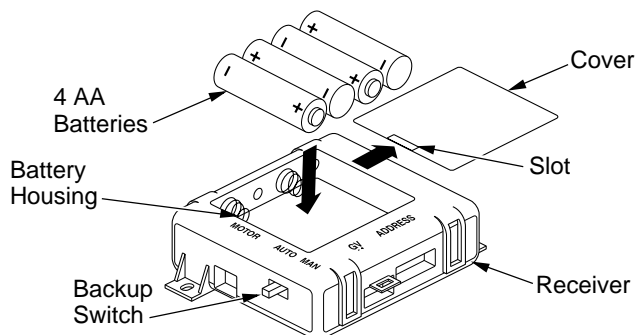

Figure 32 - Installing Batteries in Receiver
1. Locate slot on battery cover of receiver (see Figure 32). Firmly insert tool such as a small screwdriver, butter knife, or dime into the slot and lift up to remove cover.